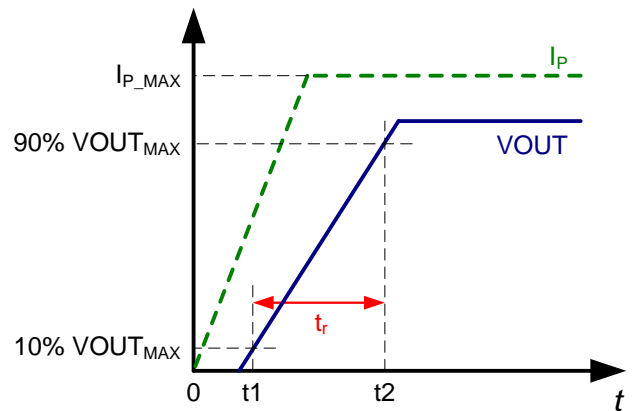

Figure 6: Rise Time (t_r)
Figure 6 shows rise time (t_r) as the time interval between the sensor V_{OUT} reaching 10% of its full scale value (t_1), and it reaching 90% of its full scale value (t_2). The sensor bandwidth is defined as the 3dB cutoff frequency, and can be derived by the rise time of the response to an applied step using Equation (6):